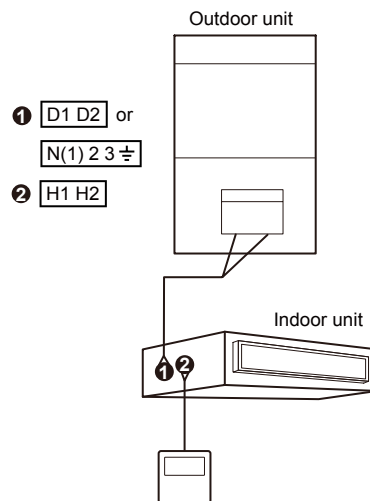
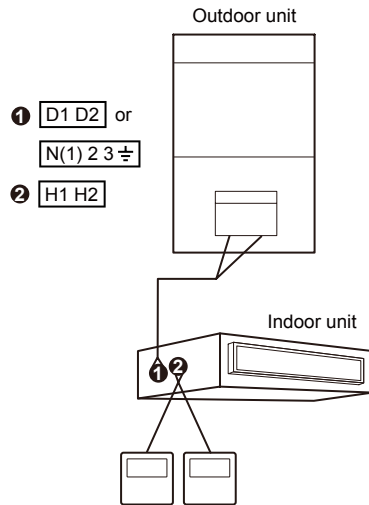
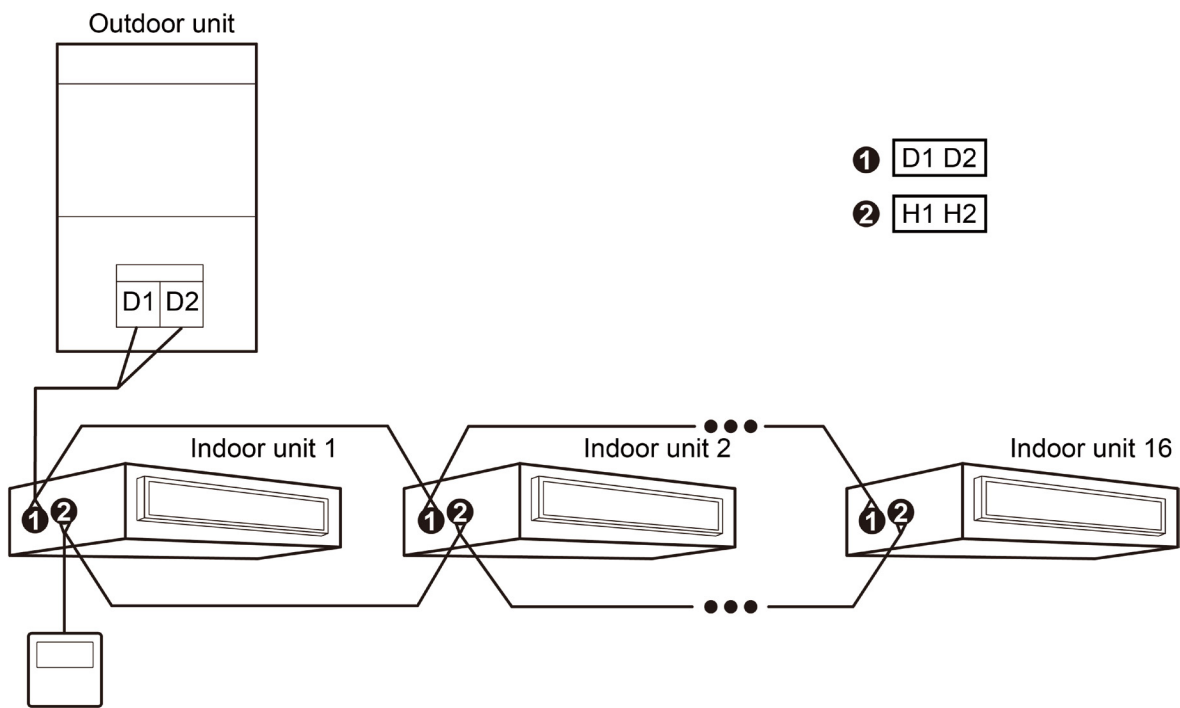
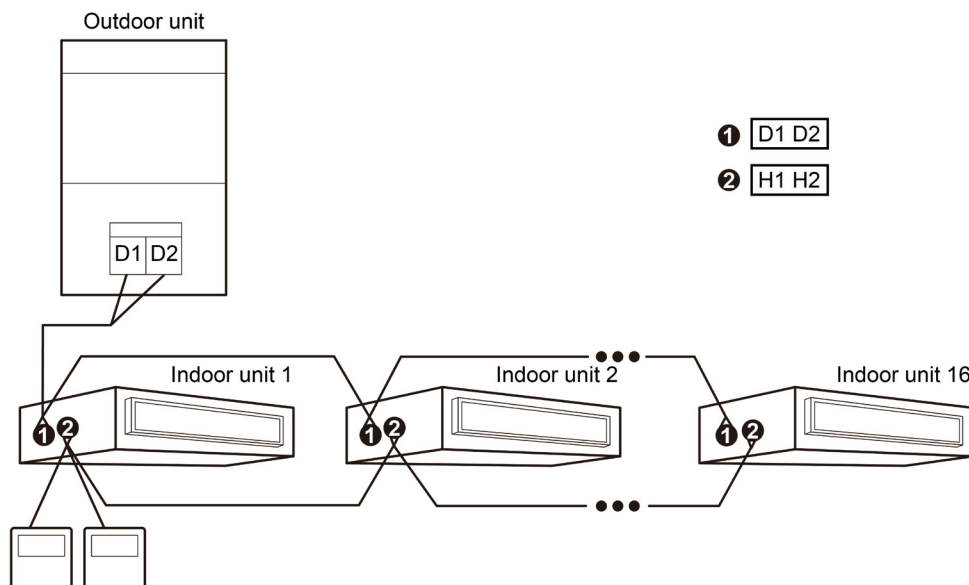

Figure 1 One Receiver Controls One Indoor unit
Figure 2 One Receiver and One Wired Controllers Control One Indoor unit
Figure 3 One Receiver Controls Several Multi VRF IDUs Simultaneously
Figure 4 One Receiver and One Wired Controller Control Several Multi VRF IDUs Simultaneously
(1) When the receiver is connected with multi VRF unit, the wiring methods as shown in Figure 1, Figure 2, Figure 3 and Figure 4 can be adopted, but please pay attention to the follow:
① When one receiver or one receiver and one wired controller control several indoor units simultaneously, the receiver can connect any one indoor unit, but the connected indoor unit shall be of the same indoor unit series and the connected indoor unit shall be in the same multi VRF system. When it is applied together with the wired controller, please set the indoor unit quantity of group control in the wired controller.
② When the receiver controls several indoor units simultaneously, the settings of all indoor units controlled by it shall be identical.
(2) In the wiring methods as shown in Figure 2, Figure 4, there can't be two receivers simultaneously and only one wired controller and one receiver are allowable. The wired controller can be set as master or slave wired controller and the receiver address will switch automatically (no need to set receiver address manually) according to the wired controller address (that is master/slave wired controller). The total quantity of receiver and wired controller can't exceed two.
(3) The receiver interface is non-polar, but it can't be connected with heavy current.
(4) Wired controller and remote signal receiving LED panel can be used at the same time.
(5) When selecting remote signal receiving LED panel, select the remote controller.